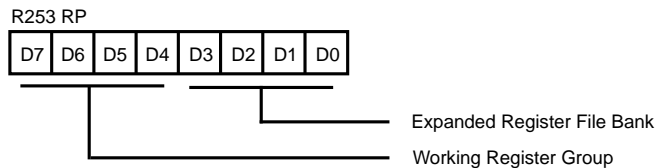
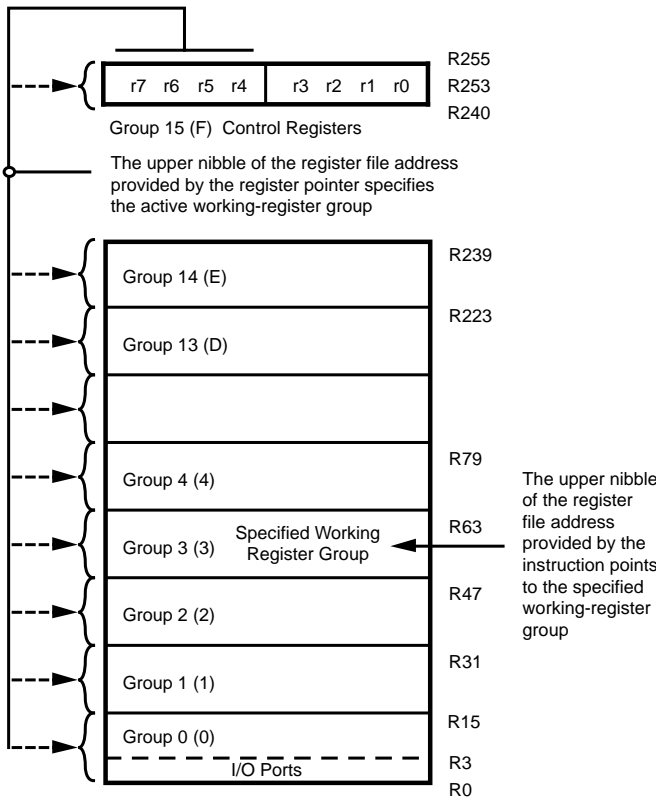
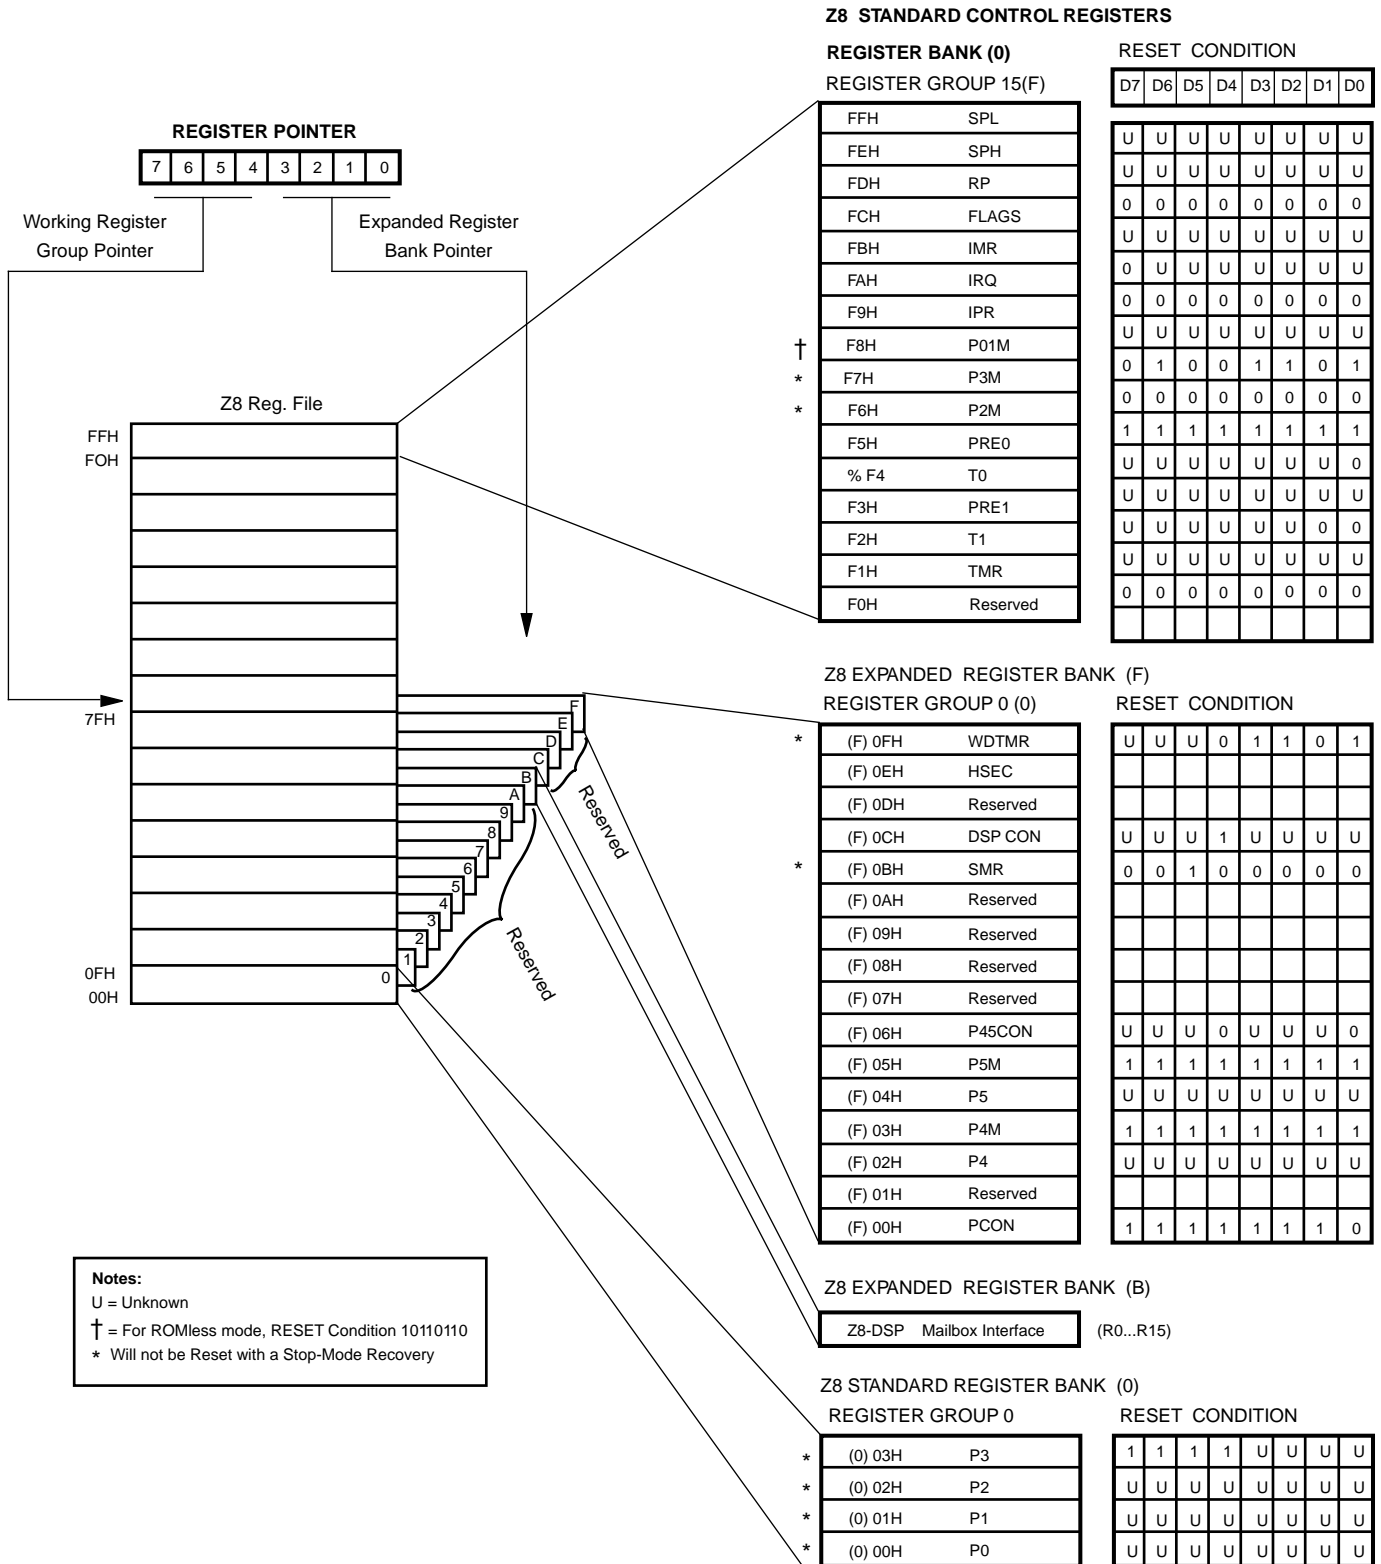

Figure 19. Register Pointer Register
Figure 20. Register Pointer
Figure 21. Expanded Register File Architecture
**Register File.** The standard Z8 register file consists of four I/O port registers, 236 general-purpose registers, and 15 control and status registers (R0-R3, R4-R239, and R241-R255, respectively). The instructions access registers directly or indirectly through an 8-bit address field. This allows a short, 4-bit register address using the Register Pointer (Figure 19). In the 4-bit mode, the register file is divided into 16 working register groups, each occupying 16 continuous locations. The Register Pointer addresses the starting location of the active working register group (Figure 20).
**RAM Protect.** The upper portion of the Z8's RAM address spaces 80H to EFH (excluding the control registers) is protected from reading and writing. The RAM Protect bit option is mask-programmable and is selected by the customer when the ROM code is submitted. After the mask option is selected, the user activates the RAM Protect from the internal ROM code by loading a bit D6 in the IMR register to either a 0 (OFF) or a 1 (ON). A 1 in D6 indicates RAM Protect enabled.
**Expanded Register File.** The register file on the Z8 has been expanded to allow for additional system control registers and for mapping of additional peripheral devices along with I/O ports into the register address area. The Z8 register address space has been implemented as 16 banks of 16 register groups per bank (Figure 20). These register banks are known as the ERF (Expanded Register File). Bits 7-4 of register RP (Register Pointer) select the working register group. Bits 3-0 of register RP select the Expanded Register bank (Figure 21).